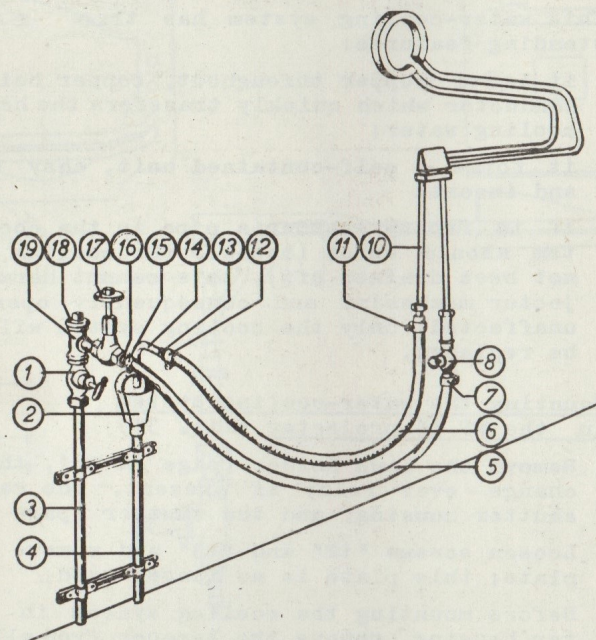

Fig. 32
3. Connection to the water mains (fig. 32)